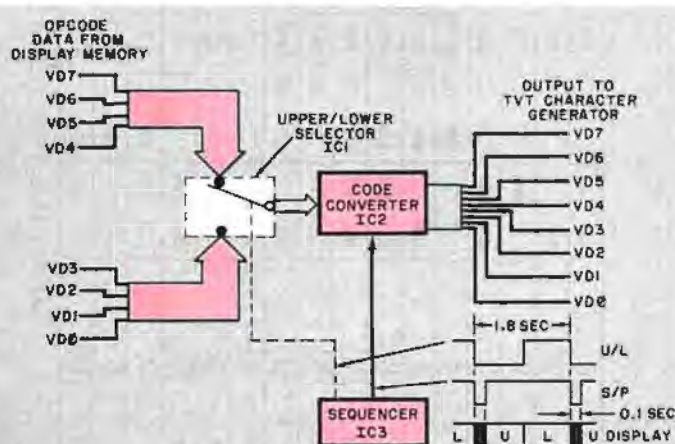

Fig. 1. Block diagram of system. Op code is displayed as brief blank, followed by upper then lower hex character.
**About the Circuit.** As shown in Fig. 1, the eight input lines from the display memory that normally drive the TVT character generator are intercepted and split into upper- and lower-case charac-